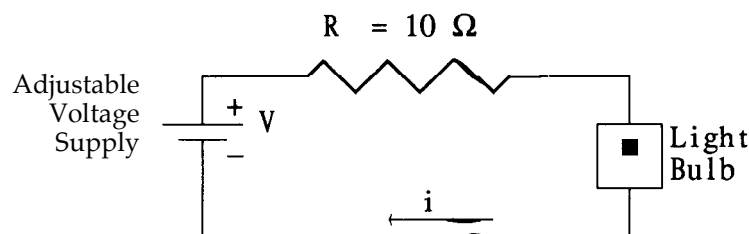

Figure 5. Circuit for measuring I vs. V for a light bulb.
- 1) To measure the current i , construct the circuit in figure 5 using a series resistance $R = 10\Omega$. The power resistors in the bins should be used for this purpose because of their high power ratings. (Remember that even 6V across 10Ω gives 0.6A, or $P=VI=3.6W$, far in excess of the $1/4 W$ rating of the most common resistors: you may need to use *combinations* of resistors to keep from exceeding the rating of any one resistor.) By assuming Ohm's Law for the resistor, you can obtain the current i through the bulb from the measured values of V_R and R .